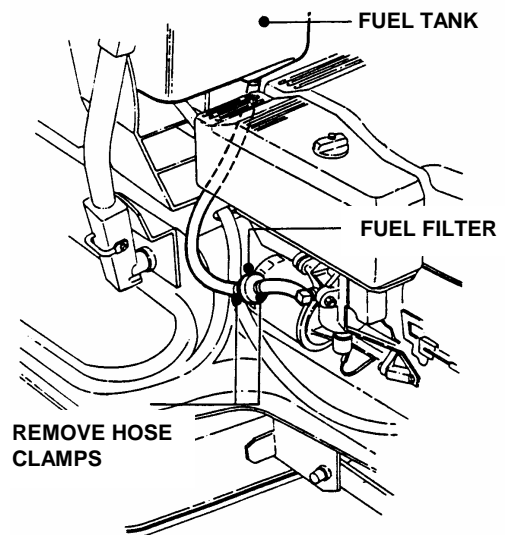

FIGURE 3.12
2. Locate fuel filter. Remove hose clamps and fuel hoses from both sides of fuel filter. See Figure 3.12.